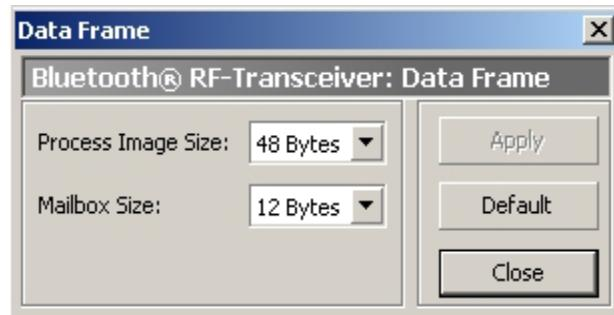

Figure 47: Data structure
6. Enter (if not already set) a process image size of 48 bytes and a mailbox size of 12 bytes (see Figure 47).